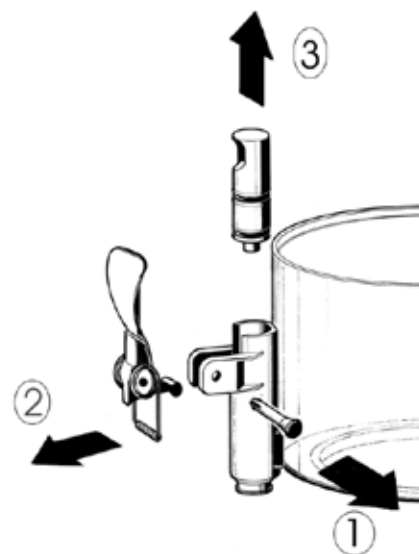

figure 1
- 3** Dismantle the faucet following the sequence shown (see fig. 1).
- 3 Reassemble the faucet assembly on the container in the opposite way to which it was dismantled (see fig. 1).